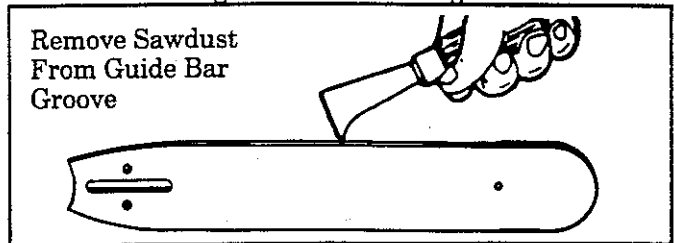

Figure 29
- Remove sawdust from the guide bar groove periodically with a putty knife or a wire. Figure 29.